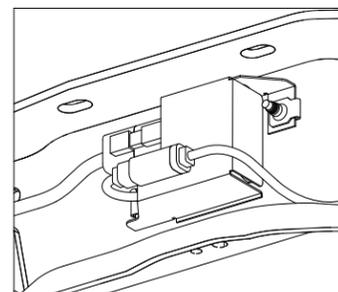
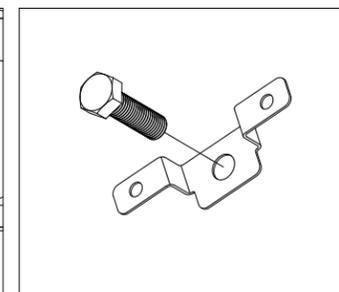
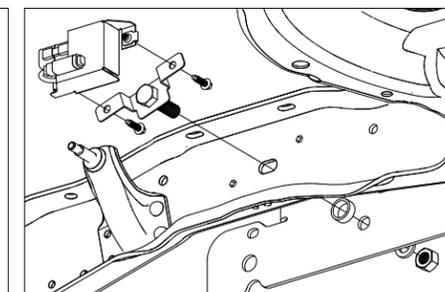
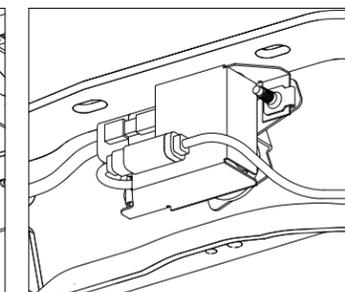

figure 6.4, inside of the passenger side frame.
figure 6.5, supplied bracket and 3/4" bolt.
figure 6.6, inside of the passenger side frame.
Figure 6.7, installed bracket and module
****NOTICE**** - On certain models of the Diesel Ford Super Duty a sensor control module is located over a hole needed to install the passenger side plate of the B&W hitch. A bracket has been supplied to relocate the module so the side plate can be installed. To begin, locate the module on the inside of the passenger frame rail (see figure 6.4). Once located, remove the two bolts holding the module to the frame. Caution, do not remove heat shielding from wiring harness. Wiring must remain as close to its original location as possible to protect it from the heat of the exhaust system. With the 3/4" bolt through the bracket, (see figure 6.5) attach the module to the bracket with the two factory bolts (see figure 6.6). Insert 3/4" bolt through oval slot in the frame and continue with sideplate installation. see figure 6.7 for relocated module in its final position.